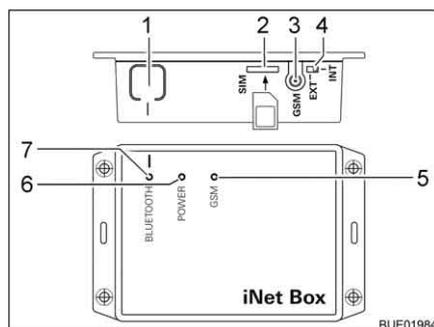

Fig. 209 Truma iNet-Box
- Press the BLUETOOTH button (Fig. 209,1) on the iNet-Box for 1 second. The Truma iNet-Box will be visible in the mobile terminal for approx. 2 minutes (name: "Truma iNet-Box"). During this period, the blue BLUETOOTH LED (Fig. 209,7) will be flashing.
- Carefully insert the mini SIM card with own telephone number and sufficient credit into the slot (Fig. 209,2) of the Truma iNet-Box as shown until it engages. The red GSM LED (Fig. 209,5) must be flashing continuously. If the red LED goes out after 20 seconds: check mini SIM card.